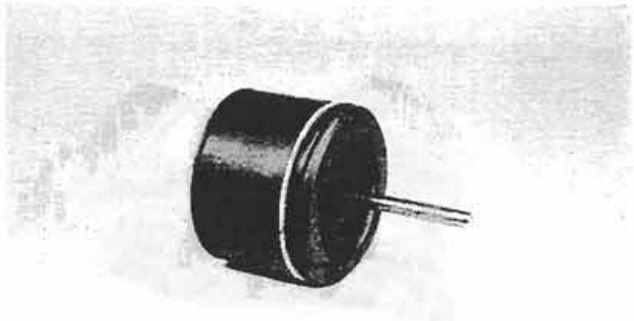

Figure 16:
3. Install the O-ring and back-up washer in the seal groove of the piston, with the back-up washer nearest the pad end of the piston (Fig. 16).